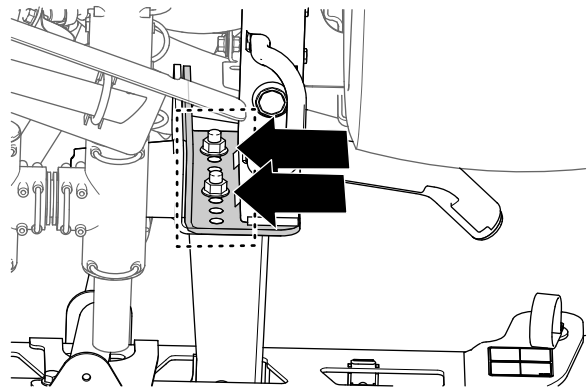

Figure 46
- 3. Use a piece of tape to mark the holes where the 4 flange-head bolts (1/2 x 1-1/4 inches) and 4 flange locknuts (1/2 inch) secure the support brackets for the center-spray section to the mounting plate of the machine (Figure 46).